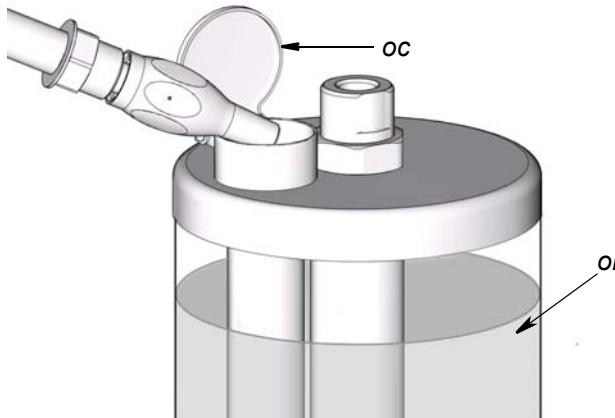

FIG. 5
- Slowly add oil (ol) until reservoir is filled to capacity (FIG. 5). Take care to not fill reservoir too quickly and overflow the reservoir capacity.
- Close oil fill cover (oc) to prevent contamination and spillage (FIG. 5).